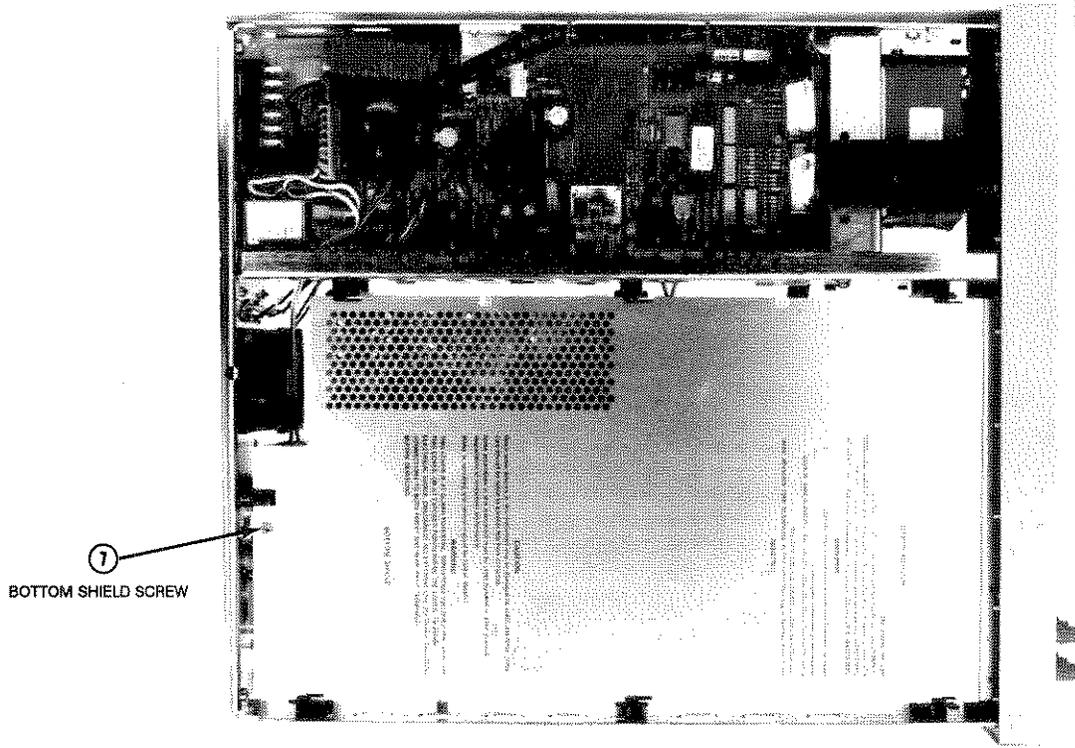

Figure 3-5. Remove/Install Bottom Shield Screw
15. Refer to Figure 3-5. Use the #TX10 Torx driver to remove the bottom shield screw. Then remove the shield. Pull the shield toward the rear of the instrument until the shield retainers line up with the slots in the shield. Lift the shield off.
6. Refer to Figure 3-5. Turn the instrument over so its top sits on your workbench.